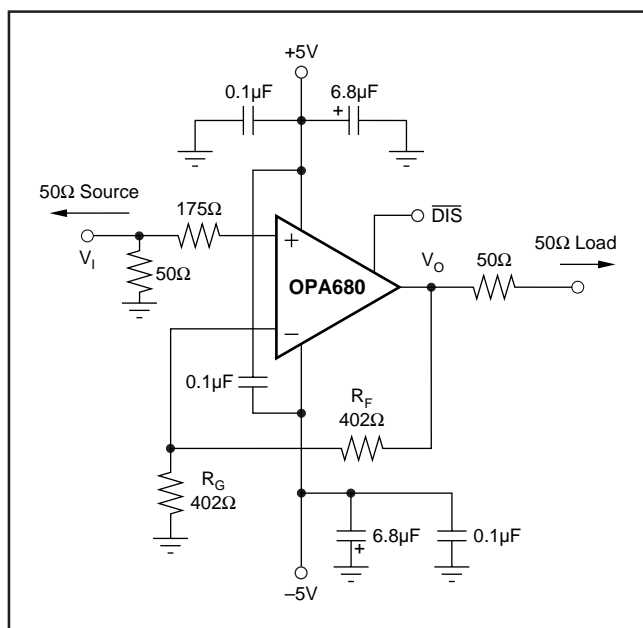
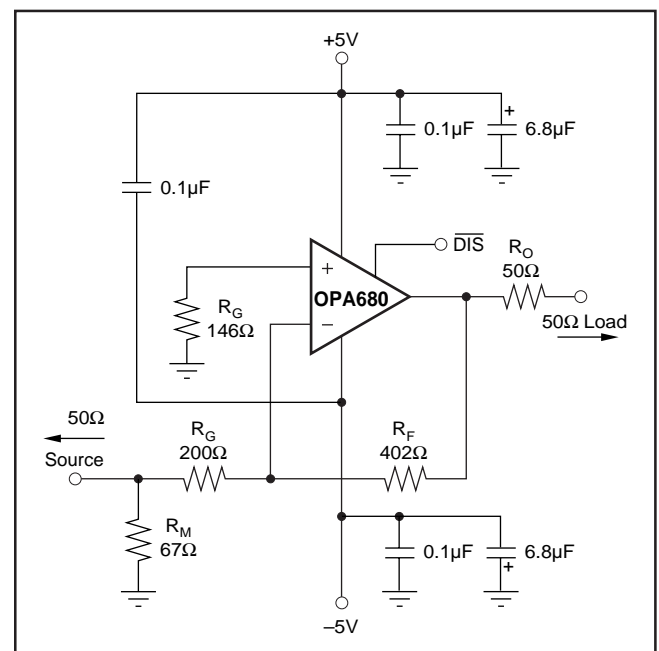

FIGURE 1. DC-Coupled, G = +2, Bipolar Supply, Specification and Test Circuit.
FIGURE 8. Gain of -2 Example Circuit.
At $T_A = +25^\circ C$, $G = +2$, $R_F = 402\Omega$, and $R_L = 100\Omega$, unless otherwise noted. See Figure 1.
Figure 1 shows the DC-coupled, gain of +2, dual power supply circuit configuration used as the basis of the $\pm 5\text{V}$ Specifications and Typical Performance Curves. For test purposes, the input impedance is set to 50 Ω with a resistor to ground and the output impedance is set to 50 Ω with a series output resistor. Voltage swings reported in the specifications are taken directly at the input and output pins, while output powers (dBm) are at the matched 50 Ω load. For the circuit of Figure 1, the total effective load will be 100 Ω || 804 Ω . The disable control line is typically left open to guarantee normal amplifier operation. Two optional components are included in Figure 1. An additional resistor (175 Ω) is included in series with the non-inverting input. Combined with the 25 Ω DC source resistance looking back towards the signal generator, this gives an input bias current cancelling resistance that
A good rule of thumb is to target the parallel combination of R_F and R_G (Figure 1) to be less than approximately 300Ω . The combined impedance $R_F \parallel R_G$ interacts with the inverting input capacitance, placing an additional pole in the feedback network and thus, a zero in the forward response. Assuming a $2pF$ total parasitic on the inverting node, holding $R_F \parallel R_G < 300\Omega$ will keep this pole above $250MHz$. By itself, this constraint implies that the feedback resistor R_F can increase to several $k\Omega$ at high gains. This is acceptable as long as the pole formed by R_F and any parasitic capacitance appearing in parallel is kept out of the frequency range of interest.
Voltage feedback op amps exhibit decreasing closed-loop bandwidth as the signal gain is increased. In theory, this relationship is described by the Gain Bandwidth Product (GBP) shown in the specifications. Ideally, dividing GBP by the non-inverting signal gain (also called the Noise Gain, or NG) will predict the closed-loop bandwidth. In practice, this only holds true when the phase margin approaches 90° , as it does in high gain configurations. At low gains (increased feedback factors), most amplifiers will exhibit a more complex response with lower phase margin. The OPA680 is compensated to give a slightly peaked response in a non-inverting gain of 2 (Figure 1). This results in a typical gain of +2 bandwidth of $220MHz$, far exceeding that predicted by dividing the $300MHz$ GBP by 2. Increasing the gain will cause the phase margin to approach 90° and the bandwidth to more closely approach the predicted value of (GBP/NG) . At a gain of +10, the $30MHz$ bandwidth shown in the Typical Specifications agrees with that predicted using the simple formula and the typical GBP of $300MHz$.
Frequency response in a gain of +2 may be modified to achieve exceptional flatness simply by increasing the noise gain to 2.5. One way to do this, without affecting the +2 signal gain, is to add an 804Ω resistor across the two inputs in the circuit of Figure 1. A similar technique may be used
Since the OPA680 is a general purpose, wideband voltage feedback op amp, all of the familiar op amp application circuits are available to the designer. Inverting operation is one of the more common requirements and offers several performance benefits. Figure 8 shows a typical inverting configuration where the I/O impedances and signal gain from Figure 1 are retained in an inverting circuit configuration.
amplifier output. For an inverting gain of 2, setting R_G to 50Ω for input matching eliminates the need for R_M but requires a 100Ω feedback resistor. This has the interesting advantage that the noise gain becomes equal to 2 for a 50Ω source impedance—the same as the non-inverting circuits considered above. However, the amplifier output will now see the 100Ω feedback resistor in parallel with the external load. In general, the feedback resistor should be limited to the 200Ω to $1.5k\Omega$ range. In this case, it is preferable to increase both the R_F and R_G values as shown in Figure 8, and then achieve the input matching impedance with a third resistor (R_M) to ground. The total input impedance becomes the parallel combination of R_G and R_M .
The second major consideration, touched on in the previous paragraph, is that the signal source impedance becomes part of the noise gain equation and hence influences the bandwidth. For the example in Figure 8, the R_M value combines in parallel with the external 50Ω source impedance, yielding an effective driving impedance of $50\Omega \parallel 67\Omega = 28.6\Omega$. This impedance is added in series with R_G for calculating the noise gain (NG). The resultant NG is 2.8 for Figure 8, as opposed to only 2 if R_M could be eliminated as discussed above. The bandwidth will therefore be slightly lower for the gain of -2 circuit of Figure 8 than for the gain of $+2$ circuit of Figure 1.
The third important consideration in inverting amplifier design is setting the bias current cancellation resistor on the non-inverting input (R_B). If this resistor is set equal to the total DC resistance looking out of the inverting node, the output DC error, due to the input bias currents, will be reduced to (Input Offset Current) $\cdot R_F$. If the 50Ω source impedance is DC-coupled in Figure 8, the total resistance to ground on the inverting input will be 228Ω . Combining this in parallel with the feedback resistor gives the $R_B = 146\Omega$ used in this example. To reduce the additional high frequency noise introduced by this resistor, it is sometimes bypassed with a capacitor. As long as $R_B < 350\Omega$, the capacitor is not required since the total noise contribution of all other terms will be less than that of the op amp's input noise voltage. As a minimum, the OPA680 requires an R_B value of 50Ω to damp out parasitic-induced peaking—a direct short to ground on the non-inverting input runs the risk of a very high frequency instability in the input stage.
The OPA680 provides good distortion performance into a 100Ω load on $\pm 5V$ supplies. Relative to alternative solutions, it provides exceptional performance into lighter loads and/or operating on a single +5V supply. Generally, until the fundamental signal reaches very high frequency or power levels, the 2nd harmonic will dominate the distortion with a negligible 3rd harmonic component. Focusing then on the 2nd harmonic, increasing the load impedance improves distortion directly. Remember that the total load includes the feedback network; in the non-inverting configuration (Figure 1) this is sum of $R_F + R_G$, while in the inverting configuration, it is just R_F . Also, providing an additional supply decoupling capacitor (0.1μF) between the supply pins (for bipolar operation) improves the 2nd-order distortion slightly (3dB to 6dB).
Evaluating these two equations for the OPA680 circuit and component values shown in Figure 1 will give a total output spot noise voltage of $11\text{nV}/\sqrt{\text{Hz}}$ and a total equivalent input spot noise voltage of $5.5\text{nV}/\sqrt{\text{Hz}}$. This is including the noise added by the bias current cancellation resistor (175Ω) on the non-inverting input. This total input-referred spot noise voltage is only slightly higher than the $4.8\text{nV}/\sqrt{\text{Hz}}$ specification for the op amp voltage noise alone. This will be the case
as long as the impedances appearing at each op amp input are limited to the previously recommend maximum value of 300Ω . Keeping both $(R_F \parallel R_G)$ and the non-inverting input source impedance less than 300Ω will satisfy both noise and frequency response flatness considerations. Since the resistor-induced noise is relatively negligible, additional capacitive decoupling across the bias current cancellation resistor (R_B) for the inverting op amp configuration of Figure 8 is not required.
The balanced input stage of a wideband voltage feedback op amp allows good output DC accuracy in a wide variety of applications. The power supply current trim for the OPA680 gives even tighter control than comparable products. Although the high speed input stage does require relatively high input bias current (typically $14\mu\text{A}$ out of each input terminal), the close matching between them may be used to reduce the output DC error caused by this current. The total output offset voltage may be considerably reduced by matching the DC source resistances appearing at the two inputs. This reduces the output DC error due to the input bias currents to the offset current times the feedback resistor. Evaluating the configuration of Figure 1, using worst-case $+25^\circ\text{C}$ input offset voltage and current specifications, gives a worst-case output offset voltage equal to: – (NG = non-inverting signal gain)